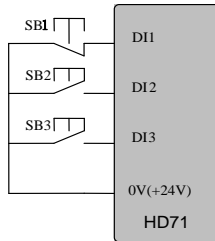

Figure 4-12 3-wire control mode 1 connection
- Wiring is as below figure 4-12: